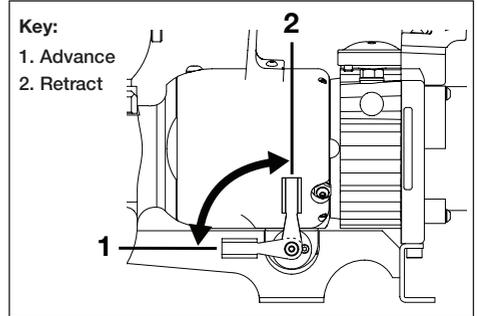

Figure 5, Directional Lever Positions
The directional lever is located on the left side of the tool. The lever position determines the piston direction of travel when the cutter is operated. See Figure 5.
4. Be sure that the directional lever is in the advance position (position 1). See Figure 5.
11. Move the directional lever to the retract position (position 2). See Figure 5.